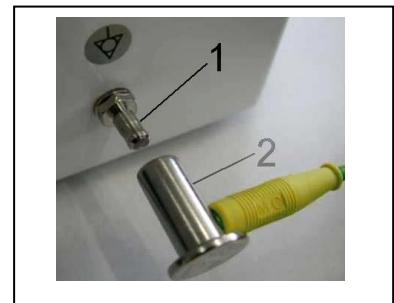

Fig. 11
- Connect the pin for equipotential bonding Ø 6 mm (1) to the electrical circuit using the defined method under valid electrical engineering regulations. The socket for equipotential bonding (2) is an accessory and is not provided in the basic package. (Fig. 11)